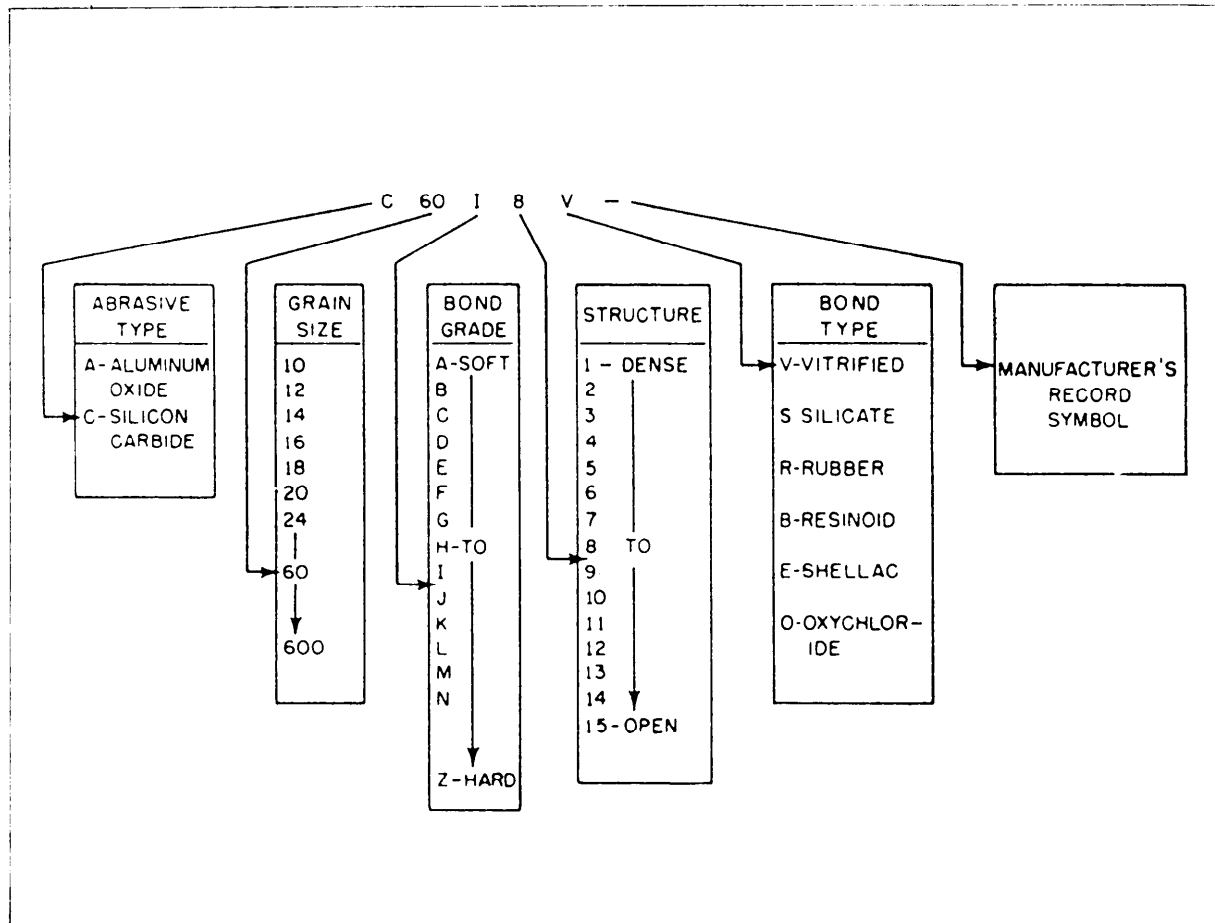

Figure 5-4.—Standard marking system for grinding wheels (except diamond).
the wheel. Since different grinding jobs require different abrasives, you should learn this identification system so you can identify the grinding wheel you need for a given job. The six stations are (1) type of abrasive, (2) grain size, (3) bond grade, (4) structure, (5) type of bond, and (6) the manufacturer's record symbol. Figure 5-4 shows the six stations that identify nearly all abrasives except diamond, which we'll explain in later paragraphs. Follow the stations in the figure from left to right as you read an explanation of each station in the following paragraphs: